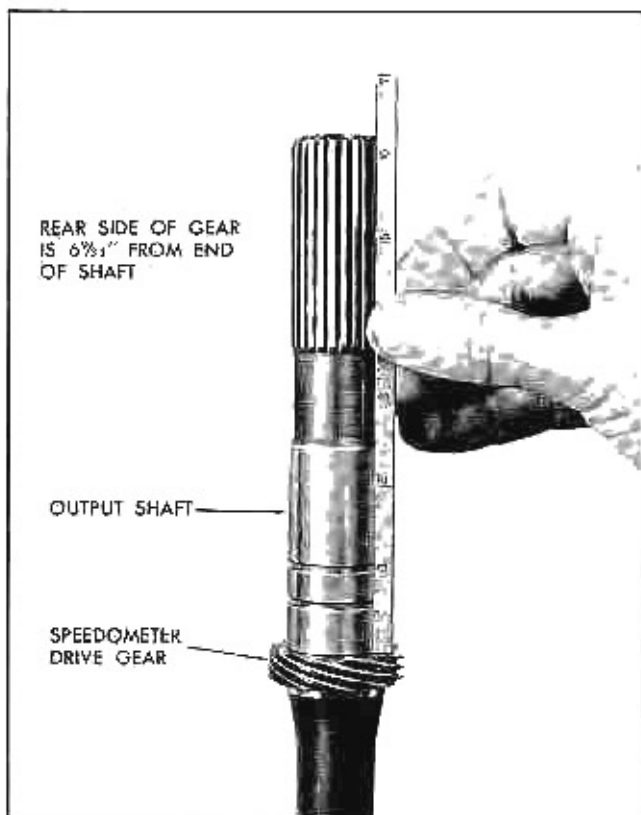

Fig. 117 Locating Speedometer Drive Gear
5. Install speedo drive gear using either tool J-6133 or press plates J-8904. Drive until rear side of gear is  $6\frac{3}{4}$  inches from end of output shaft (Fig. 117).